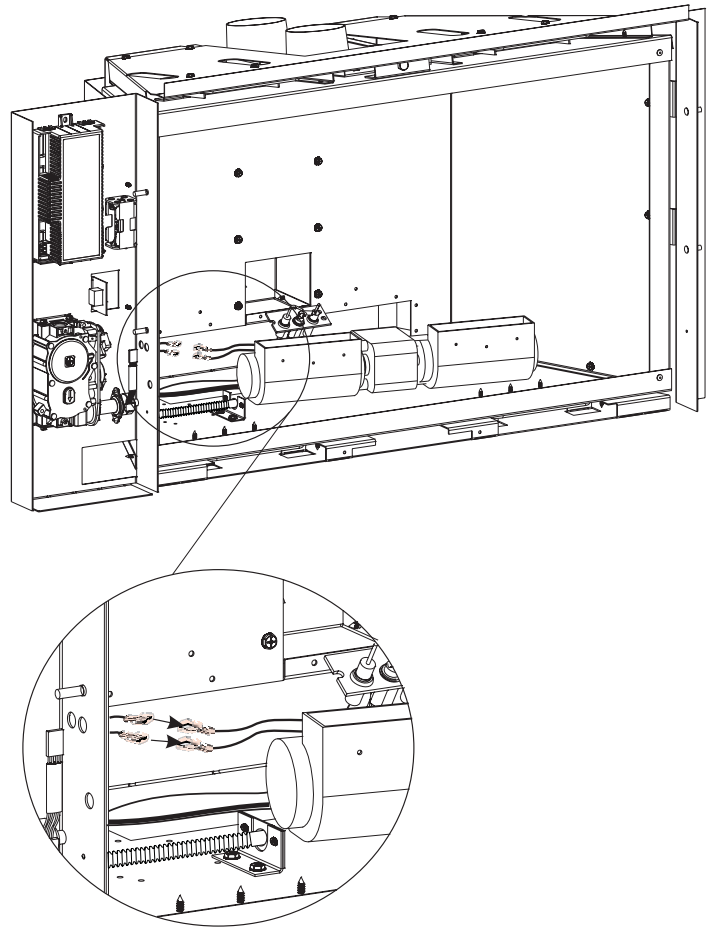

Figure 43
17. Pull blower far enough through the blower access hole to disconnect the wires at the connectors. **See Figure 43.** Once the wires are disconnected, remove blower completely and discard.